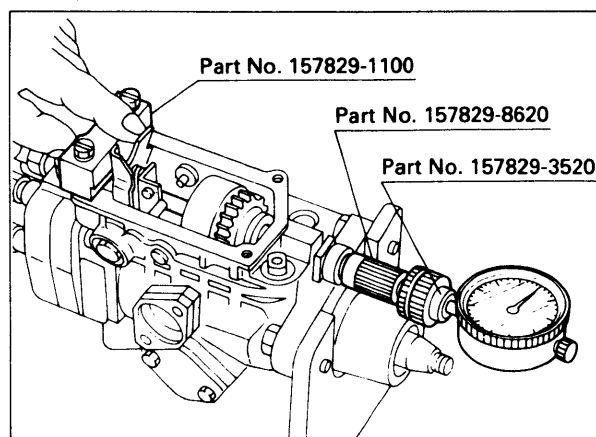

Fig. 18
- (3) Install the block gauge (Part No. 157829-1100) as shown in Fig. 18. Insert the pin of the plunger lift stroke measuring device (Part No. 157829-3520) into the measuring device shaft, already fixed in step b-(2). Secure the dial using the nut. To set the dial's zero point, slightly push the dial so that the dial reads between 2 to 3 mm (the tip of the pin touches the rear side of the closing plug.) Ensure the governor sleeve is pushed toward the flyweight side. Hold the corrector lever against the block gauge, and push the tension lever against the stopper pin, press-fitted into the pump housing. Next, push the sleeve until the start lever contacts the tension lever, and will not move any further. Next, read the dial and select the proper sized closing plug, to ensure dimension "MS" is as specified.